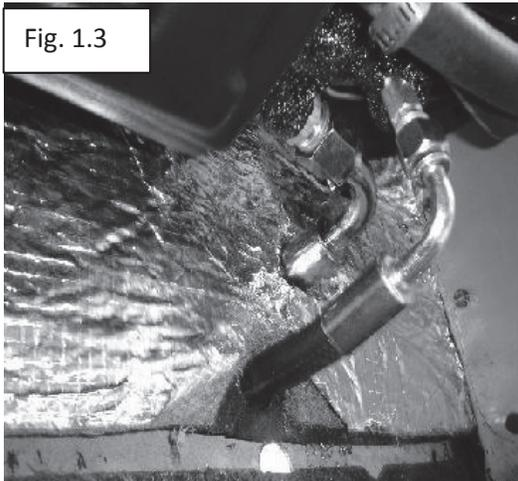

Fig. 1.3
- 8) Prior to installing the a/c lines find a location in the firewall to run the hoses through. Select according to which side of the unit the fittings are on and which side of the engine the compressor is on. Be sure to use the grommets to protect the hoses when running them through the firewall. The grommets will require a 1-1/4” hole, unless it is a large single grommet for both hoses. Our recommendation for the firewall holes is as follows: Mount the unit in its mounting location. Take the # 6 (5/16” hose) and the # 10 (1/2” hose) and push a 90 degree fitting into each. Attach the fittings (finger tight) to the evaporator. If the hoses will run straight back to the firewall without any kinks make a small mark where the hose meets the firewall, Figure 1.3. That will be the location for the grommet. If the hose is kinked or tight try a straight fitting on the evaporator connection. We do carry many fittings if a 45 or 180 degree is needed please contact us.